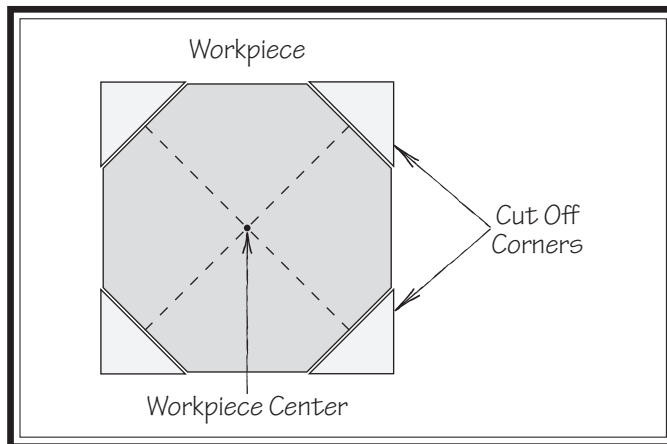

Figure 33. Corners of workpiece removed.
5. If your workpiece is over 2" x 2", cut corners off workpiece lengthwise to make turning safer and easier (see **Figure 33**).